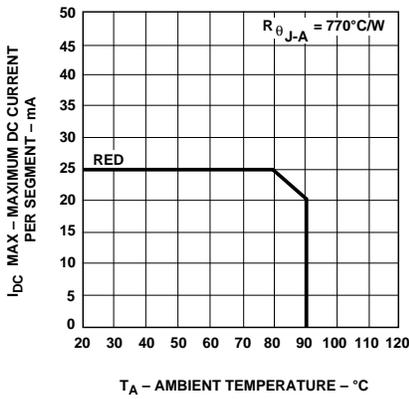

Figure 3. Maximum Allowable DC Current vs. Ambient Temperature.
- Derate above 80°C at 0.63 mA/°C (see figure 3).